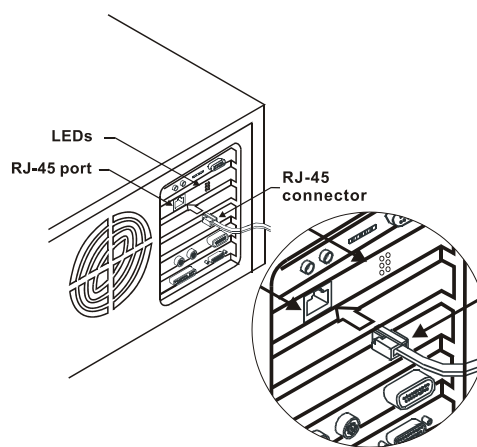

Fig.2-2 Connecting the Network Cable to the RJ-45 Gigabit Port.
1. Connect the network cable to the RJ-45 Gigabit port on GE-2032R NIC, as shown in Fig. 2-2.